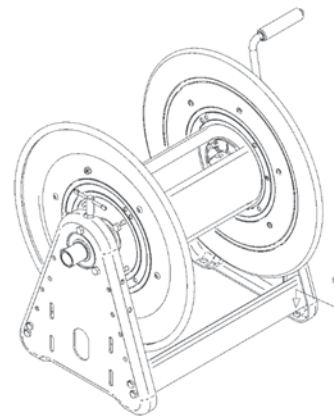

Figure 1
1. Two 1/2" diameter mounting holes are located at the base of each side support panel (2 each). Mount reel using four customer supplied bolts. Tighten bolts securely to ensure a solid, rigid attachment. (See figure 1)